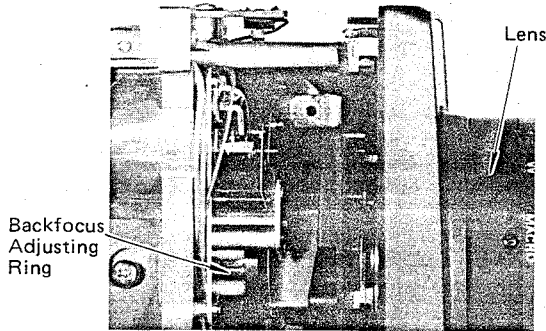

Fig. 6-4-10
- Zoom out (wide angle) and adjust the focus by turning the backfocus adjusting ring located on the front side of the camera. (Fig. 6-4-10)